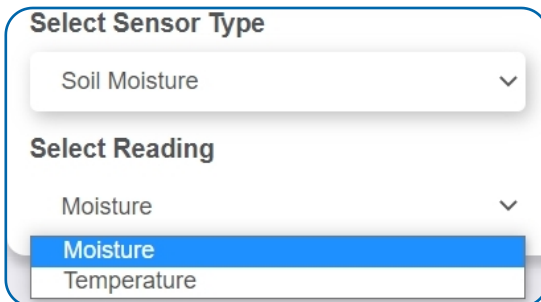

Figure 29
- Next, you will be asked to input the trigger settings. You have the option of setting this trigger to detect "moisture" or "temperature." See Figure 29.